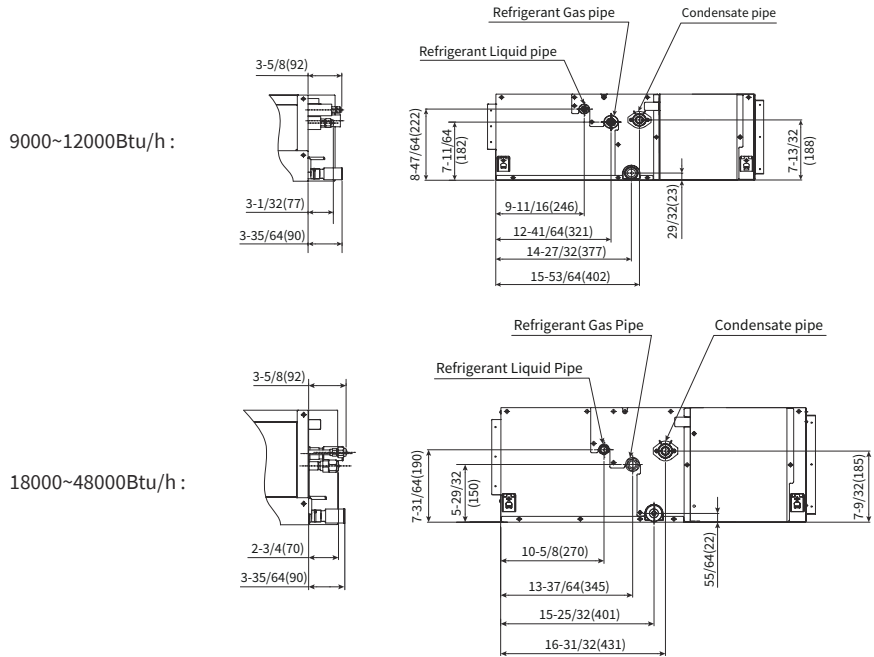

Figure 5.1 Positions of the Pipe Connection
1. See positions of the pipe connection in figure 5.1.
- Position for the selected condensate pipe is shown in figure 5.1 and the drain hole below is blocked with a rubber plug.